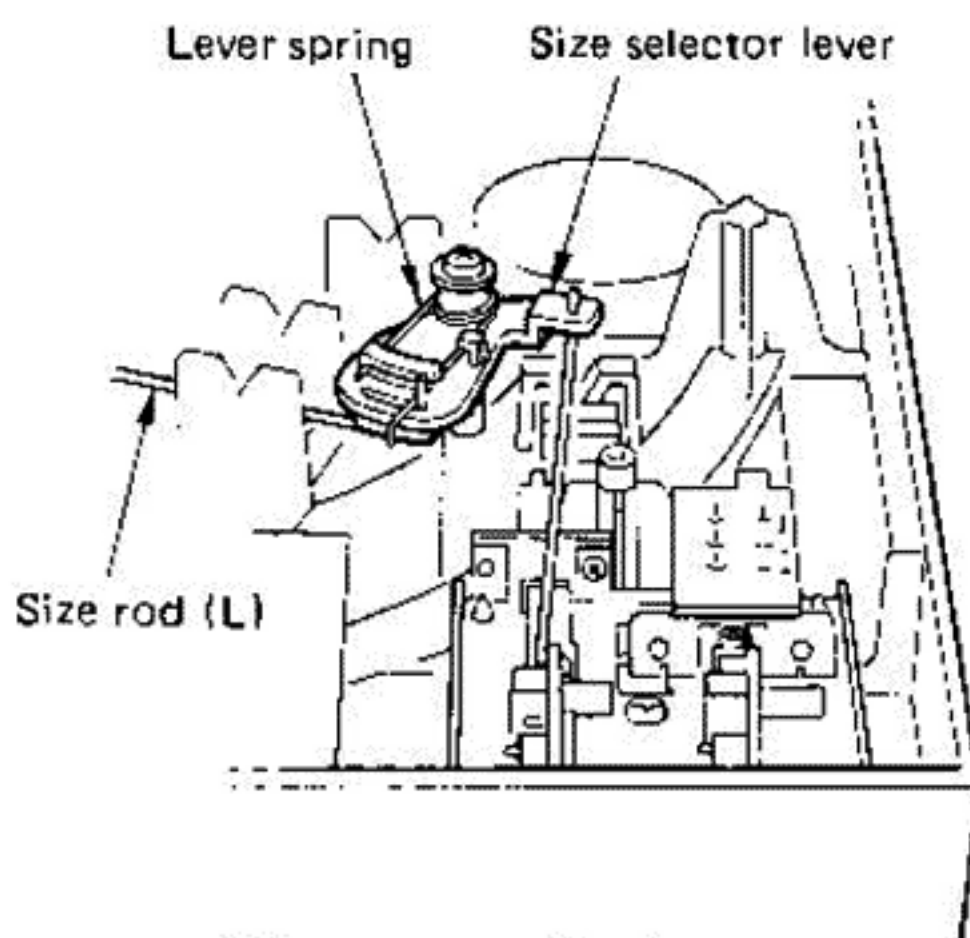

Fig. 4
- f. Remove the size rod. (L)
- \* Be careful for the position of spring when mounting. (Refer to fig. 4)